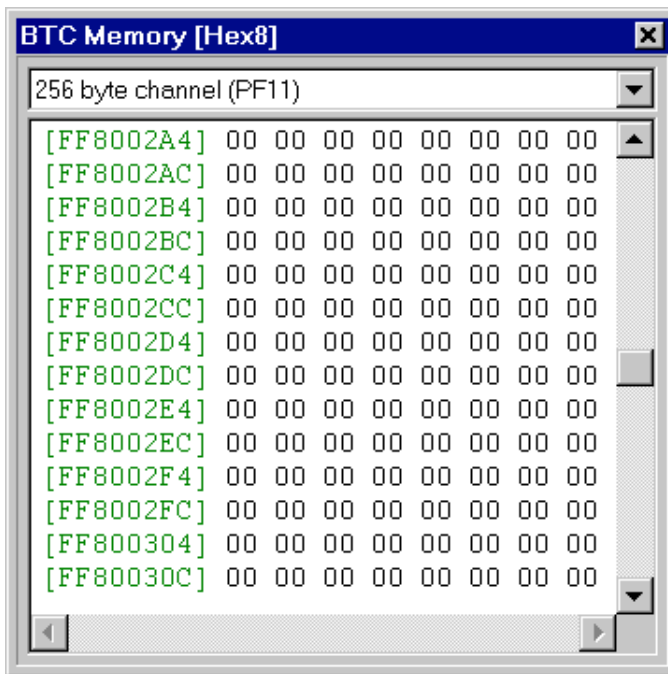
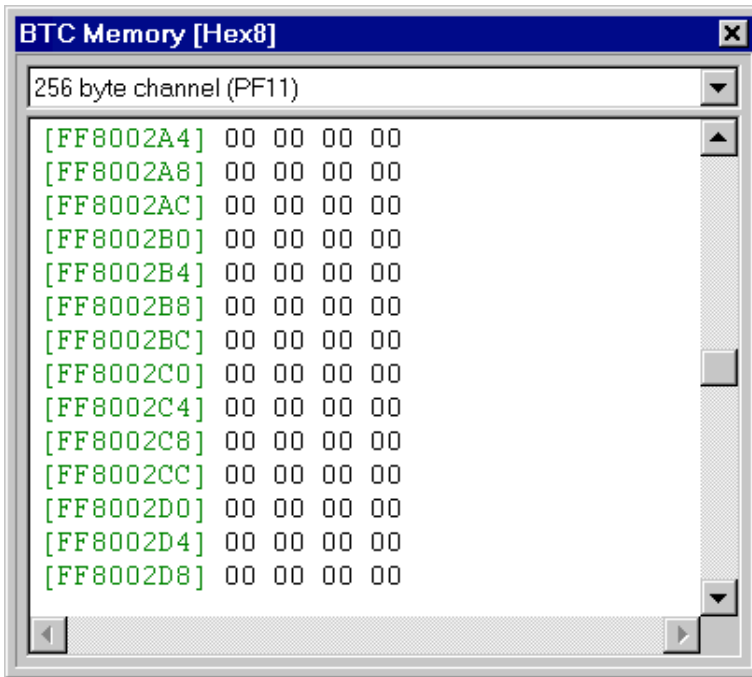
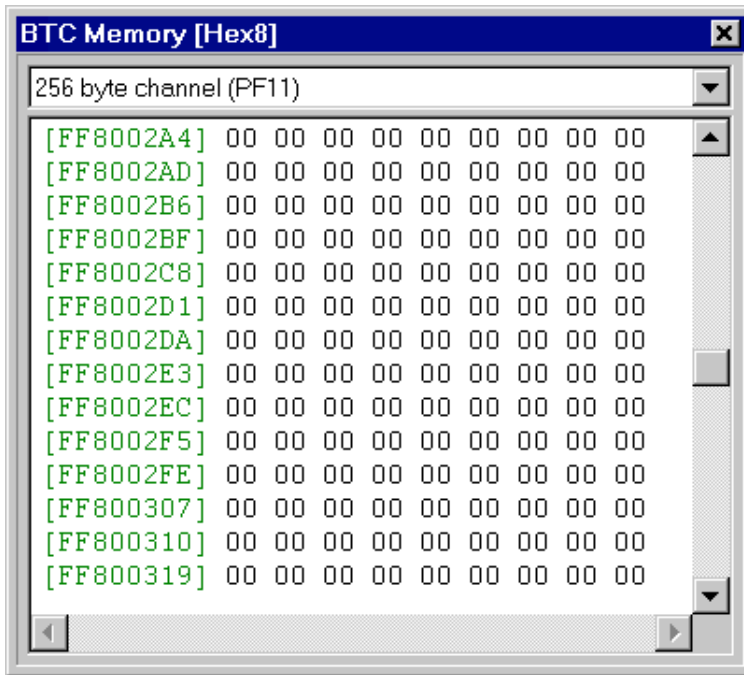

Figure 3-21. Original Window Width
Figure 3-22. Expanded Window With Lock Columns Enabled
Figure 3-23. Expanded Window With Lock Columns Disabled
- If this option is enabled, the number of columns does not change, regardless of the window's width. For example, if four columns are displayed when the option is enabled, four columns are displayed, regardless of the window's width. See Figure 3-21, Figure 3-22, and Figure 3-23 for comparisons.
Figure 3-21 shows the original window.
Figure 3-22 shows the original window expanded with Lock Columns enabled.
Figure 3-23 shows the original window expanded with Lock Columns disabled.